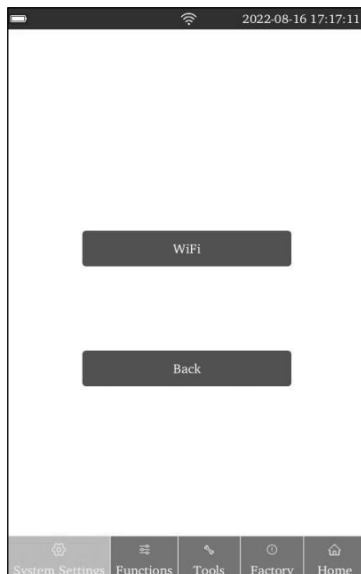

Fig 11
- 3) Tap "**Net Set**" to enter the interface. (Ref Fig 11) and tap "**WiFi**" to enter the interface below for wifi settings. (Ref Fig 12)